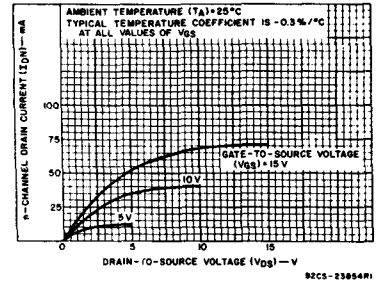

Fig. 5—Typical n-channel drain characteristics for Q output.
** If more than one unit is cascaded in single-phase parallel clocked application, t_{rCL} should be made less than or equal to the sum of the propagation delay at 15 pF, and the transition time of the output driving stage. (See Figs. 5 and 7 for cascading options.)